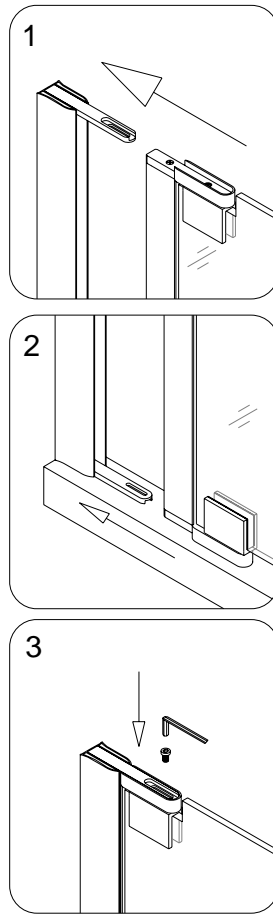

Fig 6
6. Push the glass door assembly into the groove of the **Wall profile for glass door (1)**. Secure but do not tighten the upper pivot retainer and the upper pivot bracket with **Socket head bolt M6x12 (19)**. See Fig 6 for details.